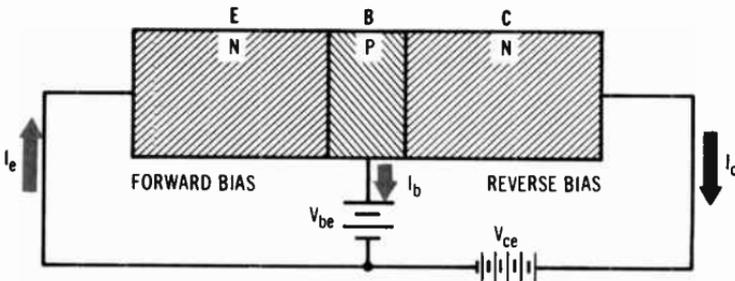
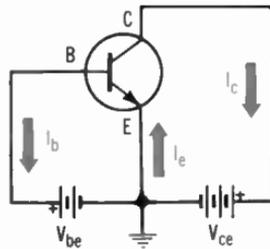

Fig. 3-25. Grounded-emitter circuit.
Fig. 3-26. Basic amplifiers.
The grounded-emitter circuit shown in Fig. 3-25 is the most common arrangement for a transistor amplifier. Let's compare it with the most common triode circuit, the grounded-cathode amplifier. You can see from Fig. 3-26 where this amplifier gets its name.
Compare the two circuits shown in Fig. 3-26. The triode is composed of a cathode (K) that emits electrons; a plate, or anode (P) that collects the electrons; and a grid (G) that controls the flow of electrons to the plate. The transistor is composed of an emitter (E) that supplies electrons, a collec-